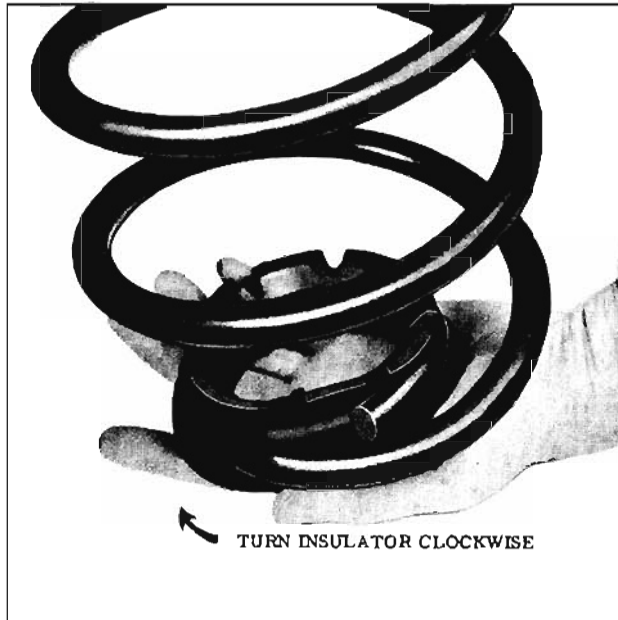

Fig. 9-37 Spring Insulator Installation
- insulators lightly so that insulator fits snugly in end of spring coil. (Fig. 9-37)